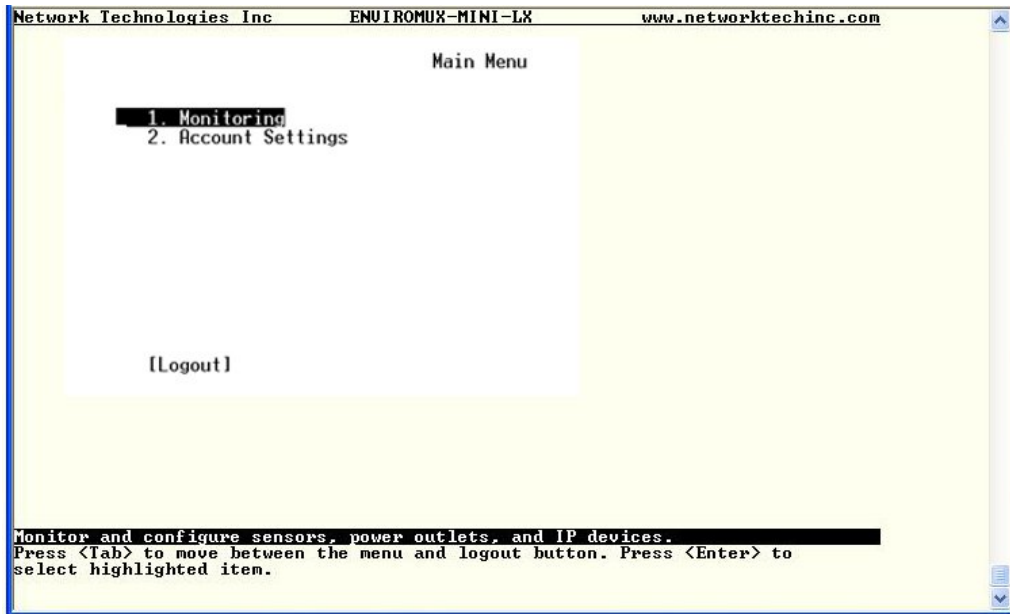

Figure 67- Text Menu- User Main Menu
- To move from menu list to action key (such as “Logout” in Figure 67 above), press <Tab>.